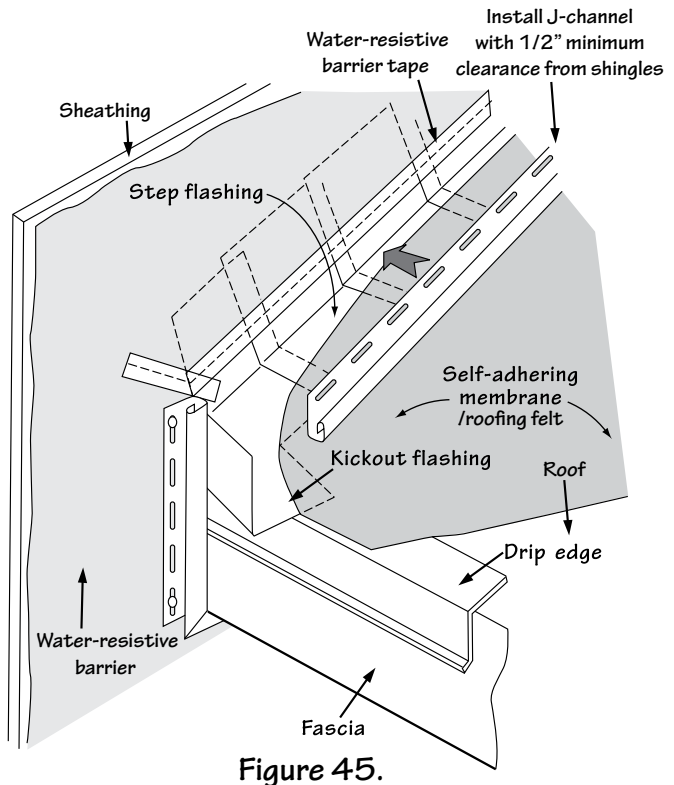

Figure 45.
- As an alternative to the diverter, create a “kickout” from metal flashing, as shown in Fig. 45.
NOTE: “Kickout flashing” (Fig. 45) is an additional flashing strip that extends beyond the edge of the fascia that is required in some cold-climate localities.